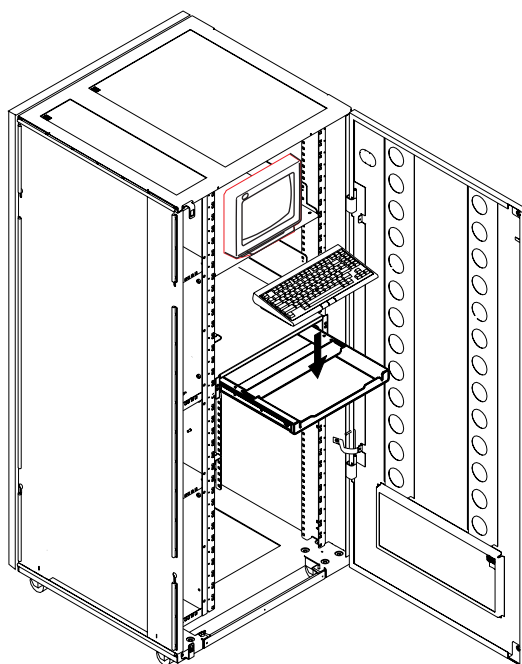

Figure 15. Installing the Keyboard
- 5. Open the drawer and install the keyboard as shown in Figure 15.